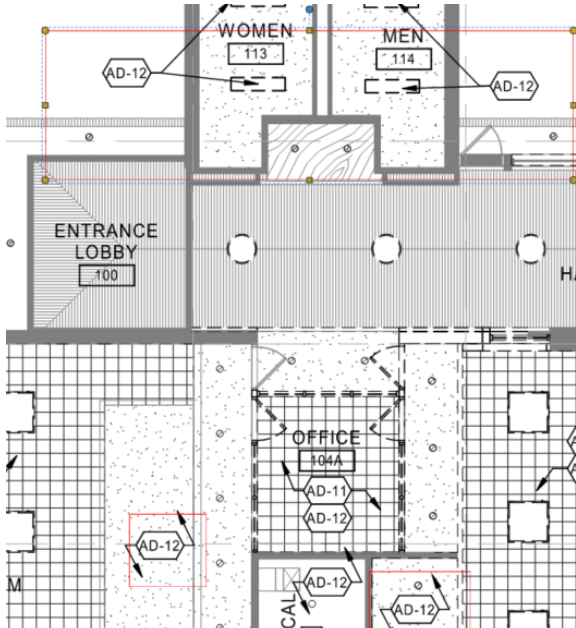
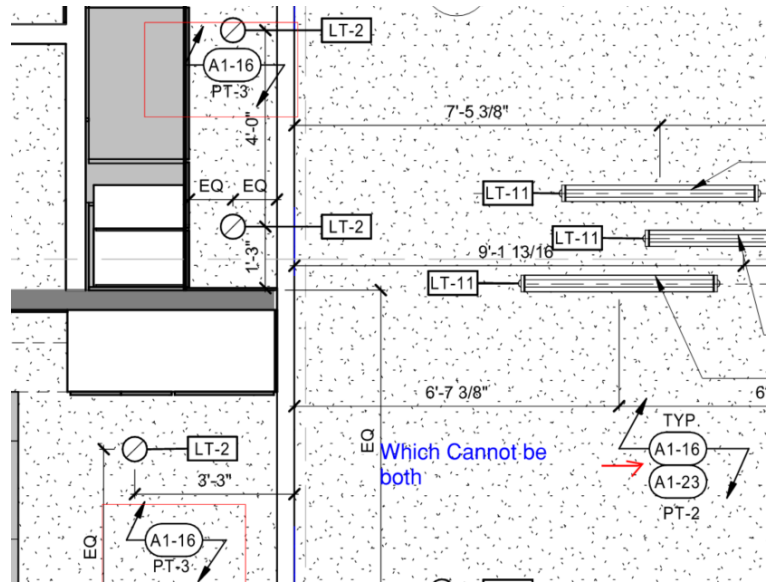

Figure 3 AD-102
Figure 2 A-121
10. **Question:** Plan conflict between Demolition and RCP: The conflicting instructions between AD-102 (Figure 2) and A-121 (Figure 3) concerning the treatment of existing interior lighting fixtures and the installation versus repair of gypsum ceilings? Can you provide clarification on the conflicting notes in A-121 regarding the installation of a new gypsum ceiling versus the repair and patching of the existing ceiling, especially in areas specified by note A1-23 where ACT is being removed?